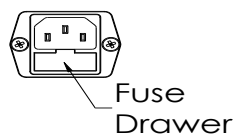

Figure 2
- Pull back on the fuse drawer (see figure 2)